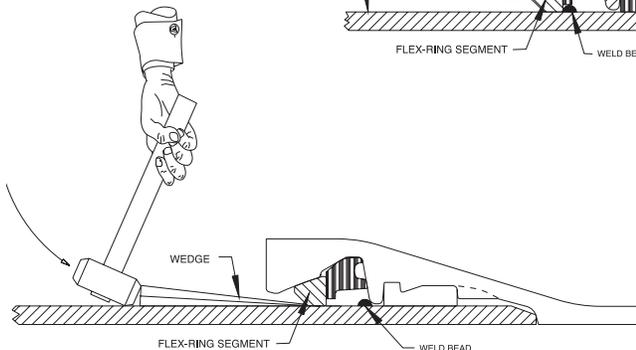

Figure 4
**2. Hammer a starter wedge under a yellow locking segment until an approximately 1/8" gap is seen between the segment and the spigot. (Fig. 4)**